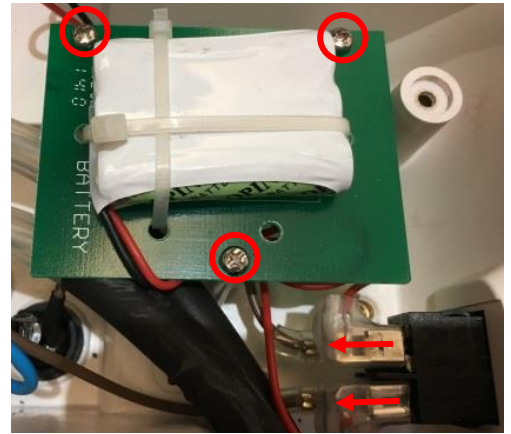

Fig: 15
2. Remove the three screws from the battery retaining plate. (Fig: 15)
1. Disconnect the two battery wires from the rocker switch. (Fig: 15)